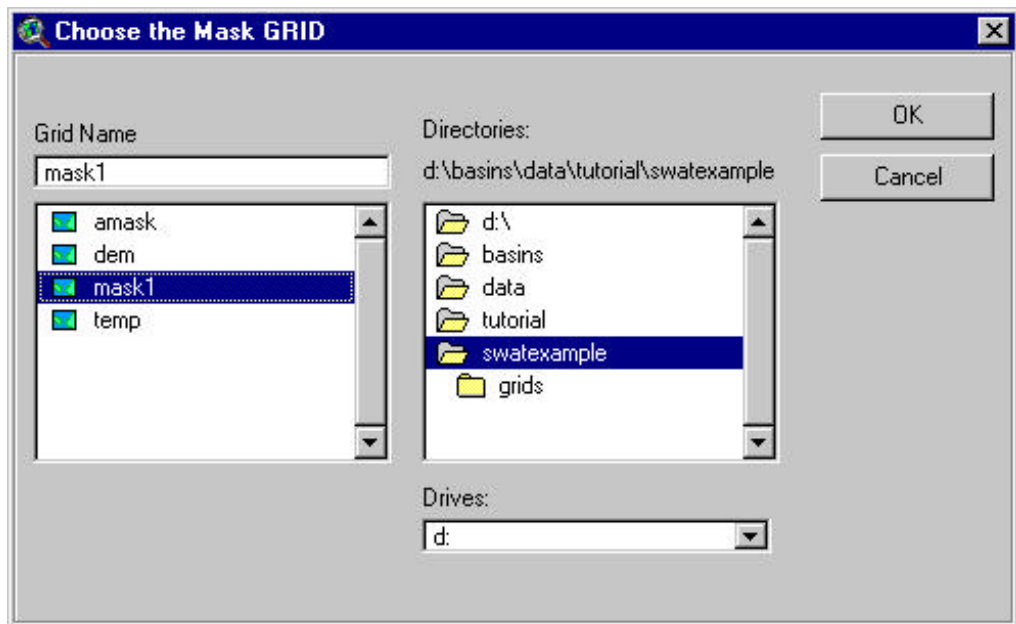

Figure 5.15
- a The first option, **Load mask grid from disk**, allows the user to import a grid map from a disk drive. If this option is selected, a grid data set browser is opened (Figure 5.15).